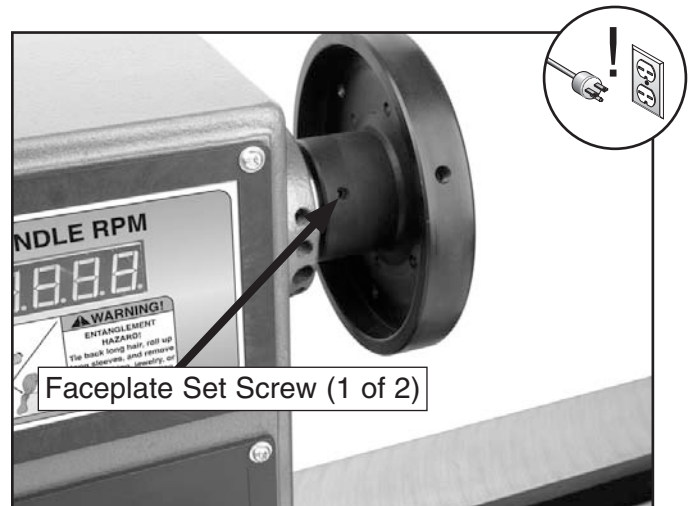

Figure 27. Headstock faceplate set screw.
3. Using the included 4mm hex wrench, tighten the two set screws along the inside diameter of the faceplate to secure it to the spindle (see **Figure 27**).